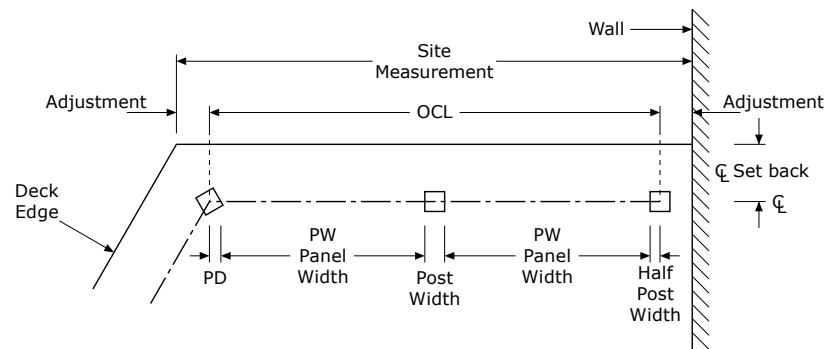

FIG. 1
The Overall Centreline (OCL) is the measurement of all balustrade runs in a continuous line, measured along the balustrade centreline (C) to each mitre, and to the centre of each end post (see Fig. 1 on Page 137)
From the site measurements, determine the OCL of the balustrade, taking into account the balustrade centreline position and any length adjustments necessary due to corners in the deck (see Fig. 1 on Page 137). Also take into account any clearances needed where the balustrade meets a wall face.
The Panel Width (PW) is a dimension between the faces of adjacent posts, measured along the rail centreline (see Fig. 1 on Page 137).
From the OCL, and the maximum post centres determined in step 1.3, calculate the PW of each panel (see Fig. 1 on Page 137), taking into account the post width and the “PD” Post Deduction.